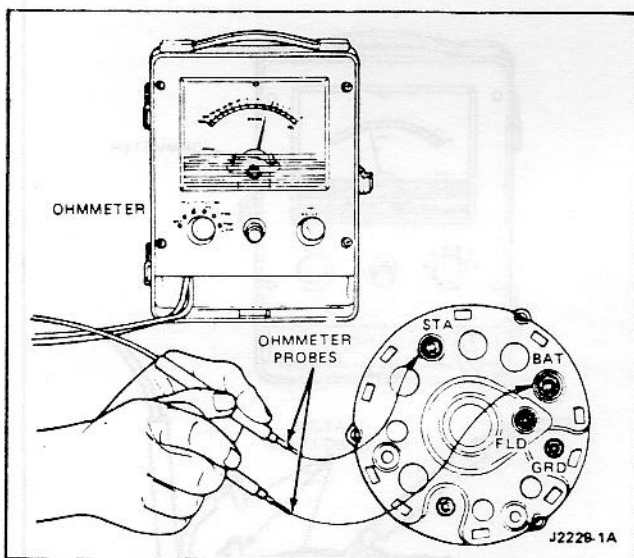

Fig. 8 - Rectifier Short or Grounded and Stator Grounded Test
1. Contact one ohmmeter probe to the alternator BAT terminal (terminal with red insulator) and the other probe to the STA terminal (terminal with black insulator) (Fig. 8). Then, reverse the ohmmeter probes and repeat the test. Normally there will be no needle movement in one direction, indicating the rectifier diodes are being checked in the reverse current direction and are not shorted. A low reading with the probes reversed indicates that rectifier positive diodes are being checked in the forward current direction. Using the referenced tester, the low reading should be about 6 ohms but may vary if another type of tester is used. A reading in both directions indicates a bad positive diode, a grounded positive diode plate or a grounded BAT terminal.